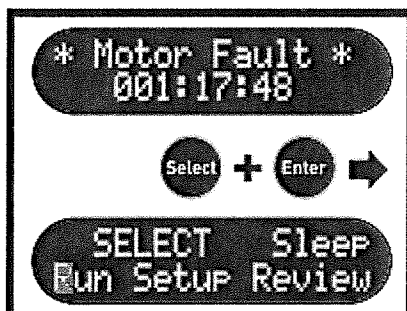

Figure 26: Troubleshooting.
3.4.1 The Flite4 pump's control board monitors the pump motor speed while running. If the motor speed signal is not detected, for example due to a disconnected wiring connection to the motor or a failure of the motor, the pump will display a motor fault warning message and retain the elapsed runtime in memory (Figure 26).